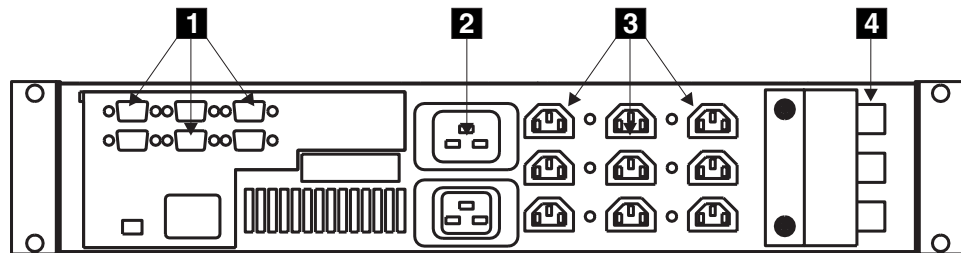

Figure 255. 2145 UPS connectors and circuit breakers
2. At the back of the 2145 UPS (Figure 255), disconnect the power cables of the SAN Volume Controller 3 .
3. Disconnect the signal cables (1 in Figure 255).
4. Disconnect the main power cable (2 in Figure 255).